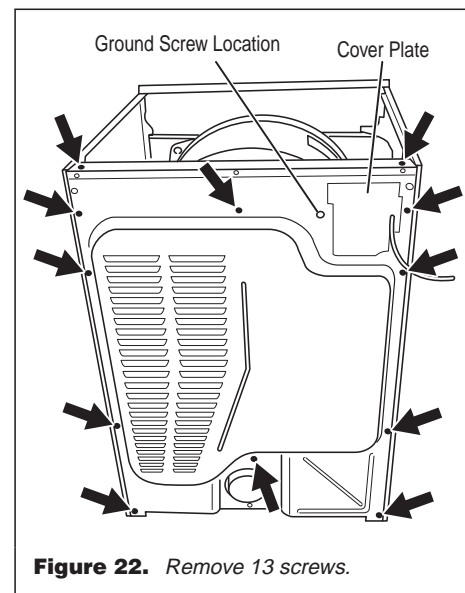

Figure 22. Remove 13 screws.
- Remove two screws on the back panel's top edge, which connect the back panel to the side panels' top edges. See figure 22.